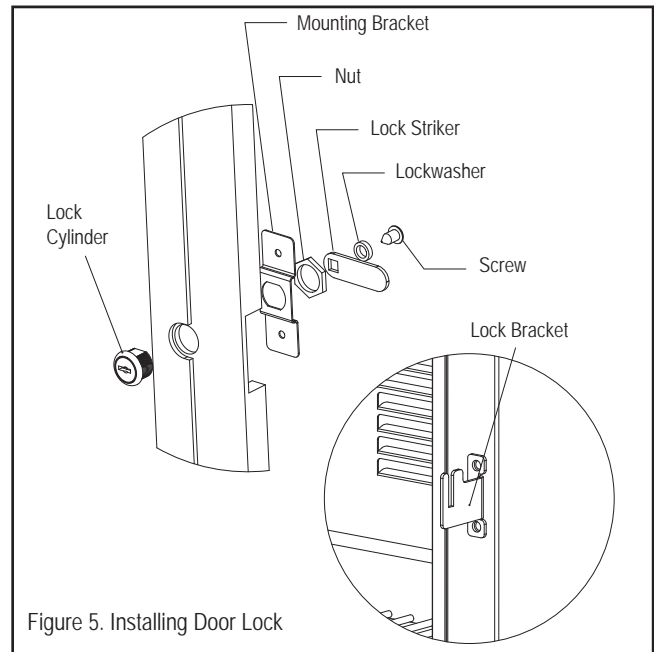

Figure 5. Installing Door Lock
1. See Figure 5. Attach mounting bracket to overlay panel.